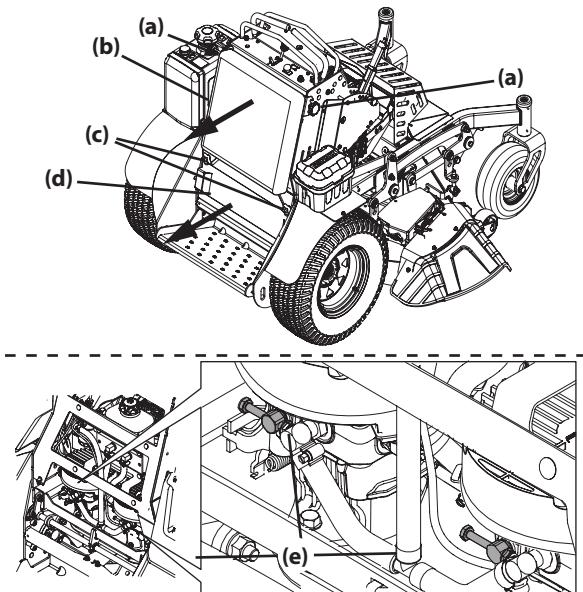

Figure 23
1. Loosen the two star knobs (a) securing the leg pad (b) to the mower. See Figure 23.